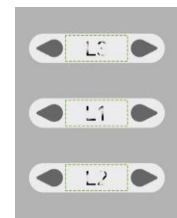

Fig. 3: Print-out faint and incomplete
- The labeling text is faint or has not been completely printed (Fig 3).